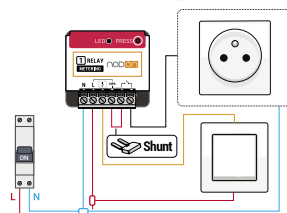

Figure 2
- Wired the Zigbee Multifunction Relay Switch with metering following the diagram figure 2, making sure to connect the two wires which controls the ambient thermostat (see your boiler user guide).